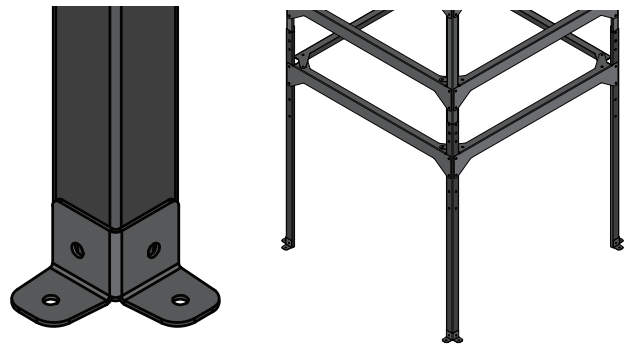

FIG. 9
Attach a Stand Foot (H) to the bottom of each Leg Assembly. Secure the Foot in place using two Bolts (G1), four Washers (G2), and two Nylock Nut (G3) [FIG. 9].